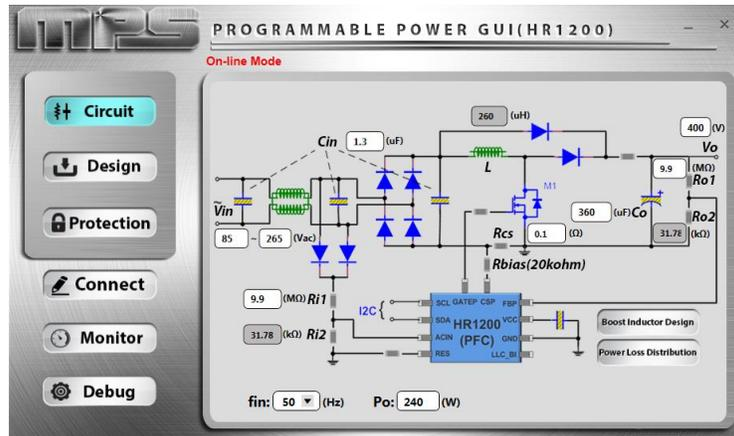

Figure 12: Main Interface in Online Mode
- b) If VCC is detected higher than 8V, the IC enters online mode (see Figure 12). Only fixed VCC is sent to the EVB.